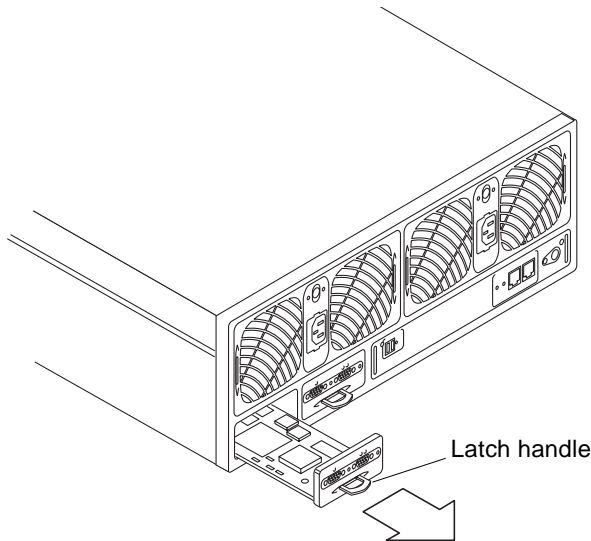

FIGURE 14-7 Removing the Interconnect Card
3. **Remove the interconnect cable from the failed interconnect card only** (FIGURE 14-7).